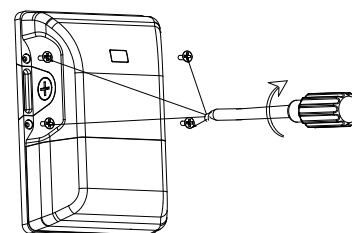

Fig. 6A
8. Close the luminaire by screwing the four screws (Fig. 6A).
8. Fermer le luminaire en vissant les quatre vis (Fig. 6A).